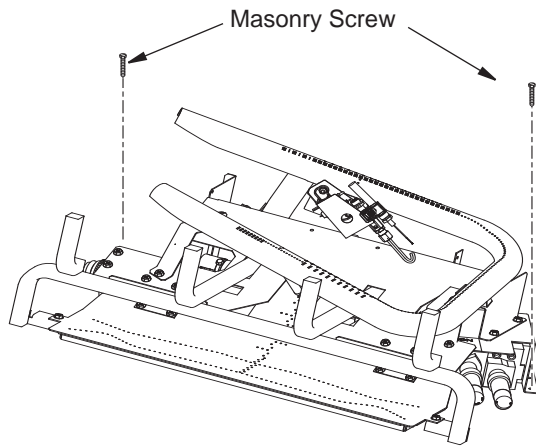

Figure 10 - Attaching Base to Fireplace Floor
3. Mark screw locations through holes in front panel of base (see *Figure 10, Page 8*). If installing in a brick-bottom fireplace, mark screw locations in mortar joint of bricks.
6. Attach base, through holes in back side panels of base, to fireplace floor using masonry screws provided in hardware package (see *Figure 10, Page 8*).